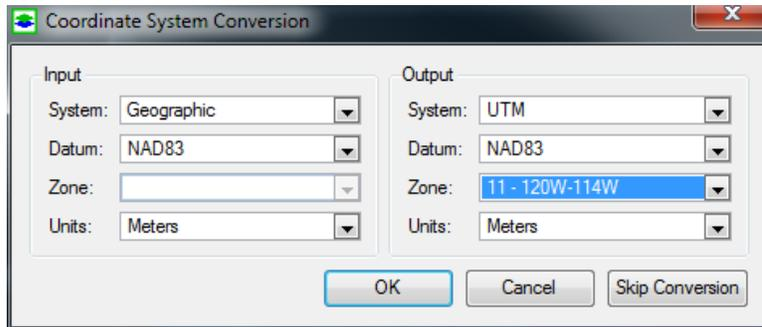

Figure 2.1. The Coordinate System Conversion dialog box
3. Once the file is imported, the Coordinate System Conversion dialog box appears (Figure 2.1), which can convert the coordinate system of the DEM file into another one. Currently, the supported input coordinate systems are Universal Transverse Mercator (UTM), Geographic, and State Plane; the supported output coordinate systems are UTM and State Plane. Most USGS DEM and SDTS datasets use the UTM system; NED uses the Geographic system. As the Raster DEM and SURFER Grid formats do not include projection information, the user has to determine the coordinate of the data. Once the parameters are entered to the Projection dialog, click OK to proceed with conversion; or click Skip Conversion to accept the original data.